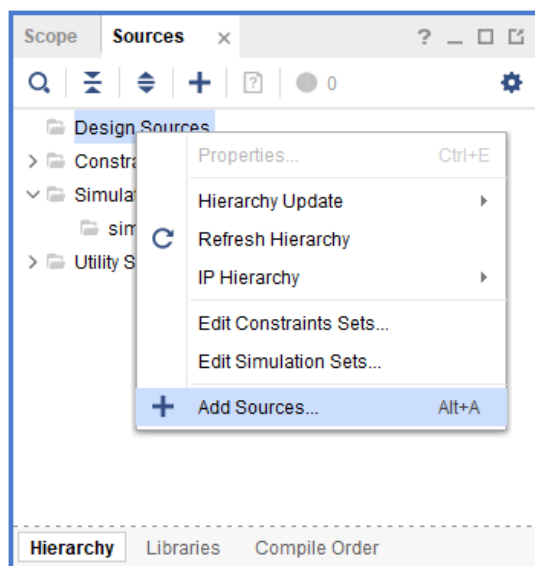

Figure 3: Add Design Source
- (a) Right-click on the Design Sources within the Hierarchy window under Sources and select 'Add Sources...' as shown in Figure 3.